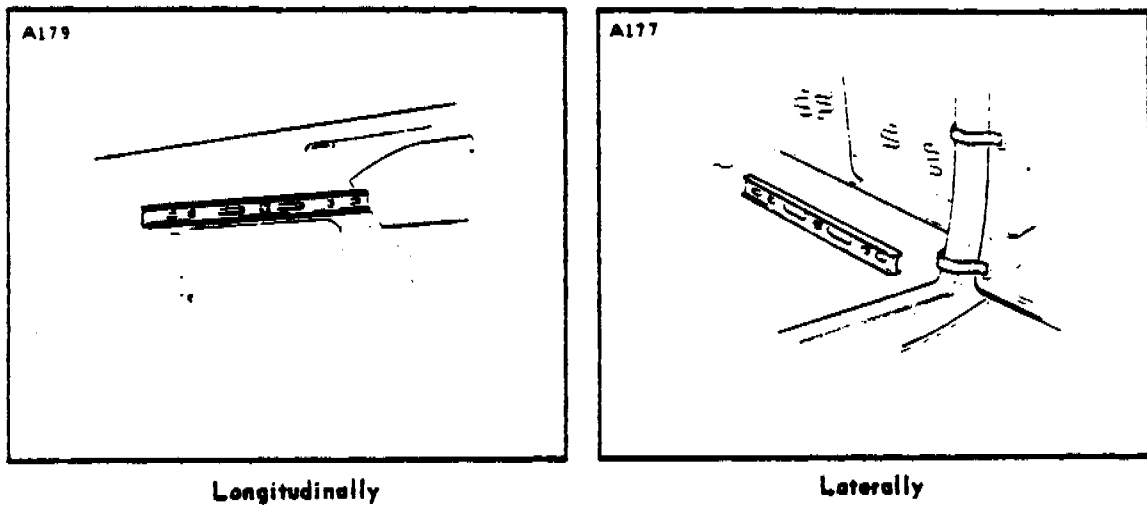

FIGURE 2-11. LEVELING AIRPLANE
2-13. **Leveling.** (Refer to Figure 2-11 and 2-12.) The aircraft may be leveled while on jacks or during the weighing procedure. (Refer to Paragraph 2-12 for weighing.)
a. To longitudinally level the aircraft, partially withdraw the two leveling screws on the side of the fuselage. Refer to Figures 2-11 or 2-12 for the leveling location on the particular aircraft being serviced. Use a level long enough to extend across the two screw heads.
d. To laterally level the aircraft, place a level over the bulkhead to which the baggage door hinge brackets are attached or on the hat section channel of the firewall bulkhead. (Refer to Figures 2-11 or 2-12 for the particular location of the aircraft being serviced.) Should equipment or other obstacles hinder placing the level directly on the channel, use two spacers of equal length between the level and the channel to bring the level above any obstacles.